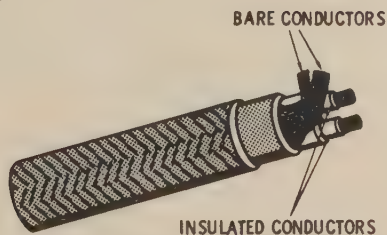

Fig. 56. SE cable with a bare neutral conductor.
Section 338-1. Definition. Service-entrance cable is a conductor assembly provided with a suitable over-all covering, primarily used for services and of the following types. When consisting of two or more conductors, one may be without individual insulation. See Fig. 56.
An explanation of this statement is as follows, referring to the type SE cable illustrated in Fig. 56. For instance, a 230-volt branch circuit or feeder might be used to supply 230-volt loads which do not require a neutral conductor. These could be electrical heating panels, or electrical heating equipment. This would require the use of the two insulated conductors for the 230-volt supply and the bare conductor would be used as an equipment grounding conductor. You are cautioned to observe this information very closely, because for some reason the use of SE cables seems to be confusing at times.
We find some of the same material here that was previously explained in this chapter. In (1), we find that a cable with insulated conductors and one bare conductor, as illustrated in Fig. 56, may be used as a branch circuit to supply a range, wall-mounted oven, counter-mounted cooking unit, or clothes dryer. Reference is made to **Section 250-60** which tells us that a three conductor cable (SE), with one con-
Part (2) of **Section 338-3(b)**, states that SE cable with a bare neutral, as illustrated in Fig. 56, may be used *as a feeder to supply only other buildings on the same premises*. Note specifically that it goes on to say that: *it shall not be used as a feeder terminating within the same building in which it originates*. This part stems from **Section 250-24**, headed **Two or More Buildings Supplied From Single-Service Equipment**. In a residence, we might have a detached garage. This could be supplied from the panel in the house by means of a feeder circuit using SE cable with two insulated conductors and a bare neutral but with no equipment grounding conductor. This is confusing because, in dealing with feeders, we normally think of an equipment grounding conductor having to be supplied with the feeder. However, in **Section 250-24** we find that we have a different situation. Where more than one building is supplied by the same service, the grounded circuit conductor of the wiring system of any building utilizing one branch circuit supplied from such service may be connected to a grounding electrode at such building, and in the case of any building housing equipment required to be grounded or utilizing two or more branch circuits supplied from such service, and in the case of a building housing live stock, shall be so connected. Thus, even though we have a feeder circuit, the other building is treated as a service for wiring purposes and a ground electrode is provided at the second building.